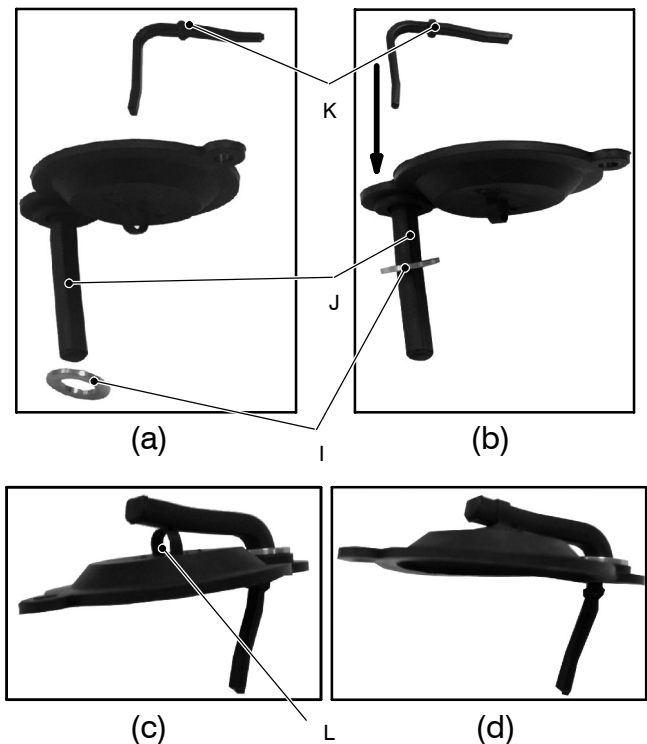

Fig. 64
- 1 Insert the brass washer *I* as in Fig. 64 (a) and (b).
- 2 Insert the plastic lever *H* into the rubber seat *J* (lubricated before) by the side without the little protrusion *K* until this touch the surface of the rubber seat as in Fig. 64 (b) .
- 3 Insert the rubber seat *J*, with the lever inserted through the rubber ring *L* as in Fig. 64 (c) and (d).